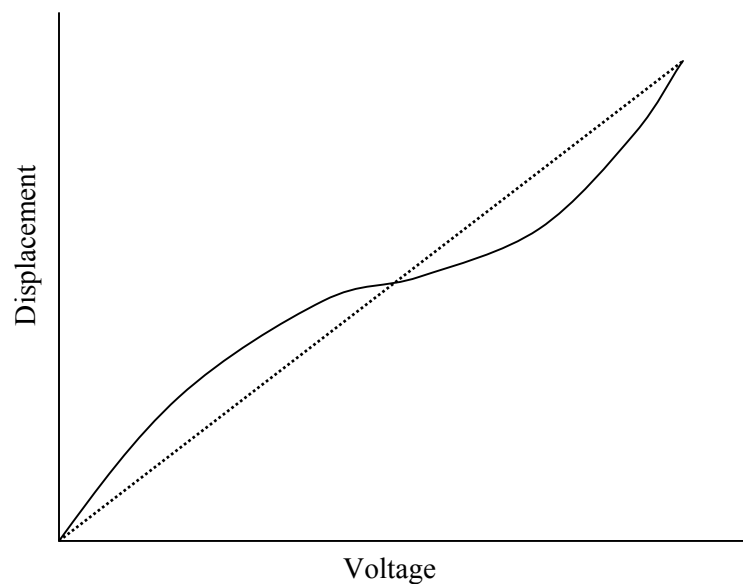

Fig. 2.3 Displacement vs. voltage plot for piezo material
- Non-linearity causes the piezo response to the triangular waveform to change as shown in Fig. 2.3 below.